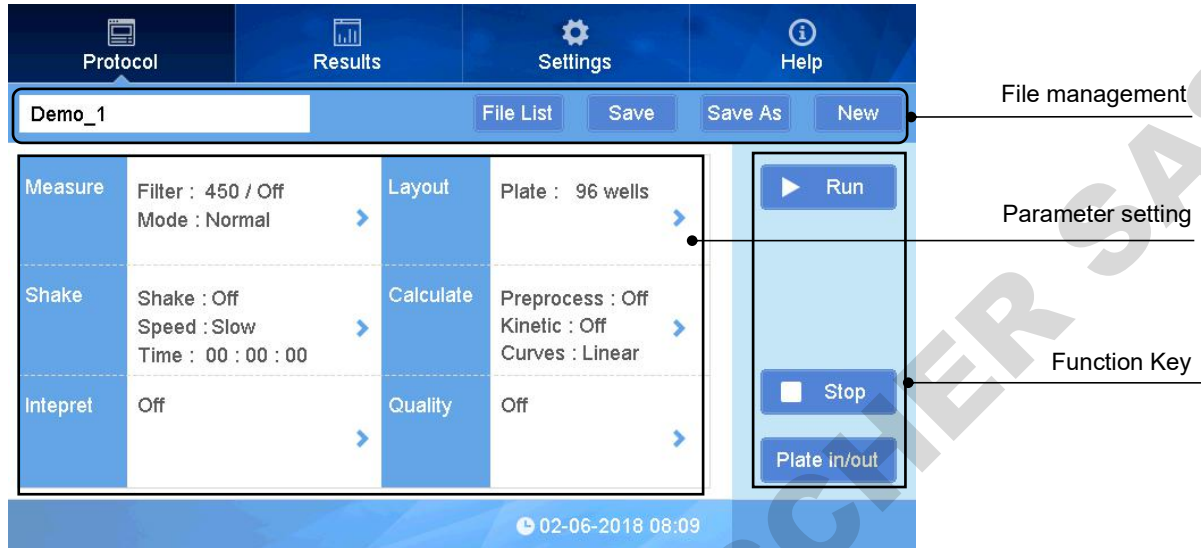

fig 2
- The name of current protocol file: (Fig 2),